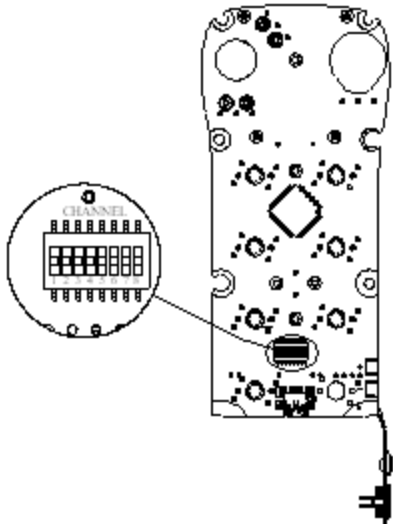
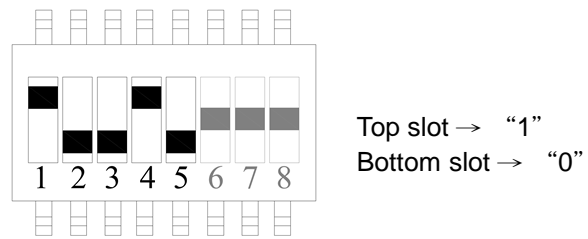

Figure 7
Figure 8
Set the transmitter channel by adjusting the channel dip-switch located on the backside of the transmitter encoder board (refer to Figure 7 below). Only the first five (5) positions of the dip-switch are used for channel programming (refer to Figure 8 below). The system channels table (Section 5) illustrates which dip-switch setting corresponds to which channel. Once the transmitter channel is altered, you must set up the receiver to recognize the transmitters on its new channel.